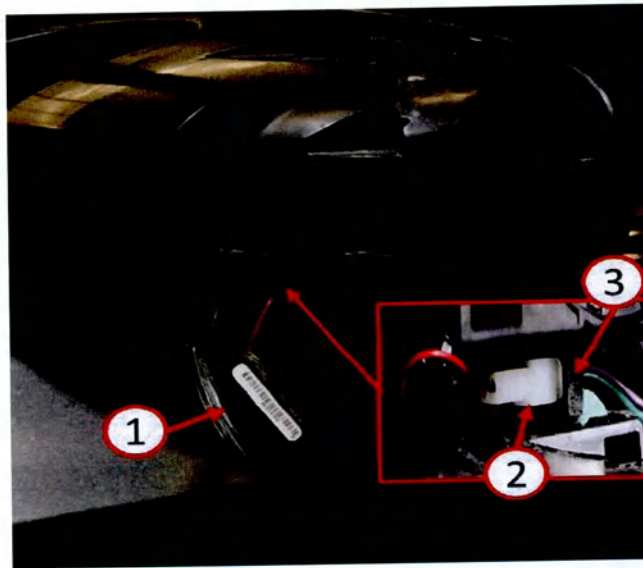

Fig. 5 Signal Lamp Removal
13. Remove the turn signal lamp (1), disconnect the connector (2) and remove it from the mirror housing (Fig. 5).
14. Connect the new turn signal connector block into mirror wire harness and route wires under bracket retaining tab (3) (Fig. 5).